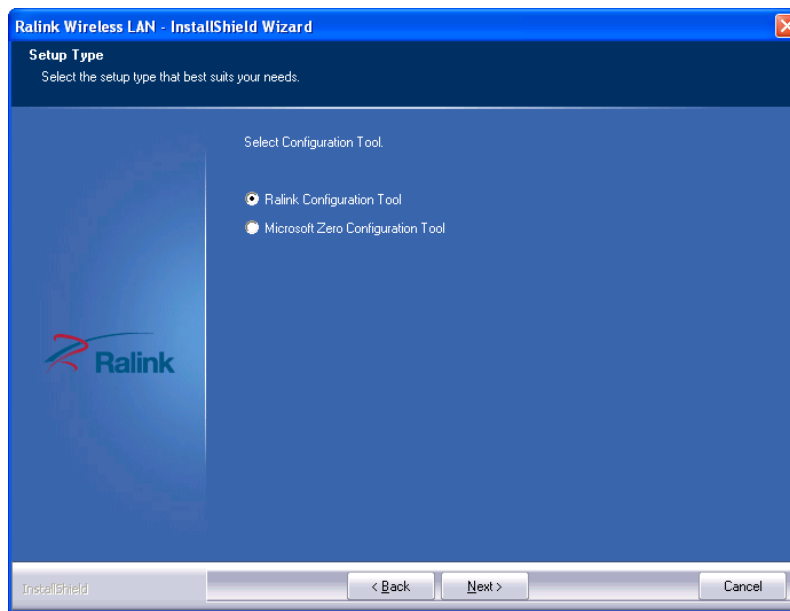

Figure 5-34: Configuration Tool
Step 7: The **Configuration Tool** screen in **Figure 5-34** appears.